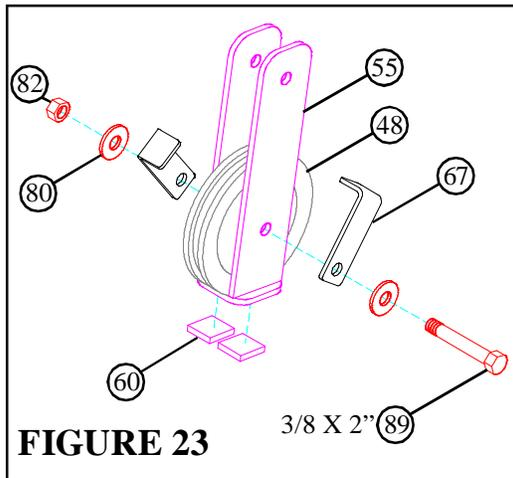

FIGURE 23
- **SECURELY** assemble one 4-1/2" PULLEY (48) to the FLOATING PULLEY BRACKET (55) using one 3/8 X 2" BOLT (89), two 3/8" WASHERS (80), two 2-7/8 X 1" CABLE CLIPS (67) and one 3/8" LOCK NUT (82) as shown in FIGURE 23.
- Apply two 1 X 1" GLIDES (60) to the FLOATING PULLEY BRACKET (55) as shown.